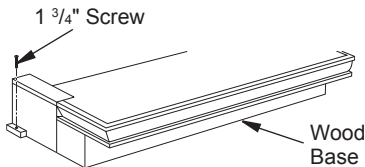

Figure 13 - Attaching Wood Base to Floor
10. Attach wood base to floor with two 1 $\frac{3}{4}$ " black screws provided (see Figure 13). If the floor is concrete use anchor method (see *Attaching Wood Base to Solid Floor*, page 16).
15. Adjust assembly to remove any gaps. Attach remaining two 3" wood screws from hardware pack through openings inside of fireplace sides into the mantel. The openings are located at top behind the area for the black louvers (see Figure 13).